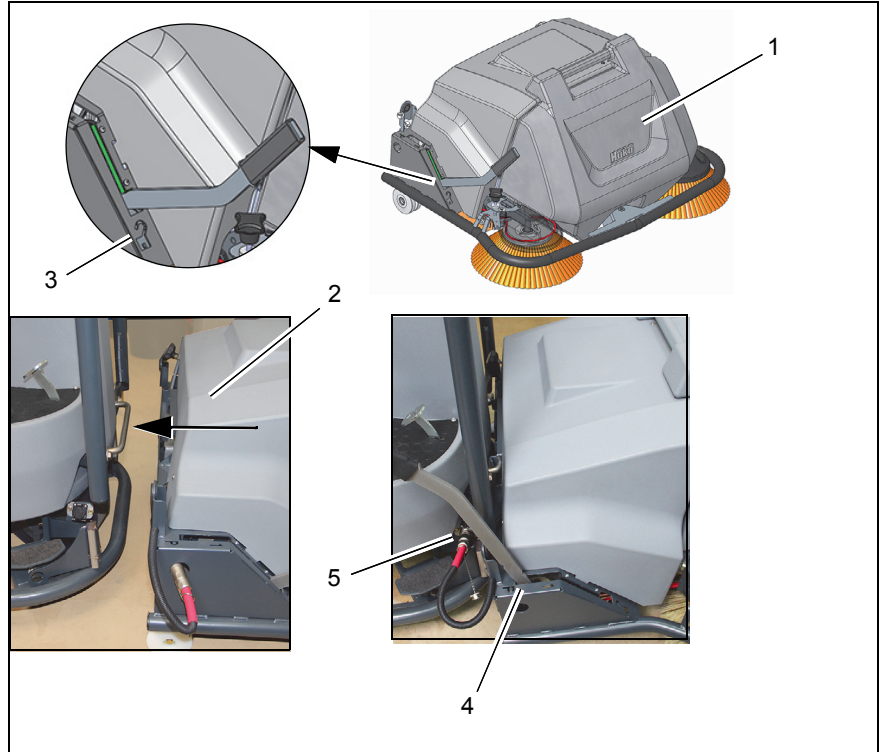

Fig. 2
(Fig. 2/1)
1. Slide the pre-sweep suction unit as far as the swivel bracket on the machine in a central position. Lever is in the change position (Fig. 2/3).
2. Move lever in position *P* (Fig. 2/4).
3. Insert the plug into the socket at the front right of the machine and secure with the knurled nut (Fig. 2/5).